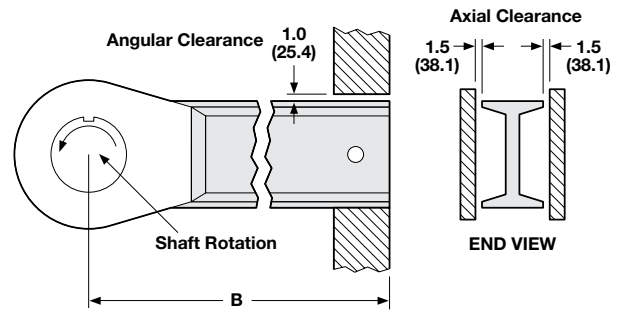

Figure 2
8. Attach torque arm stops to conveyor frame or supporting structure. The stops are required to prevent rotation of torque arm when holdback torque is applied. Allow clearance between stops and torque arm as shown in (Figure 2). The clearance is necessary to permit free axial and angular movement of the torque arm resulting from shaft runout and eccentricity. We recommend set collars on shaft to prevent Holdback from shifting which would eliminate this clearance.